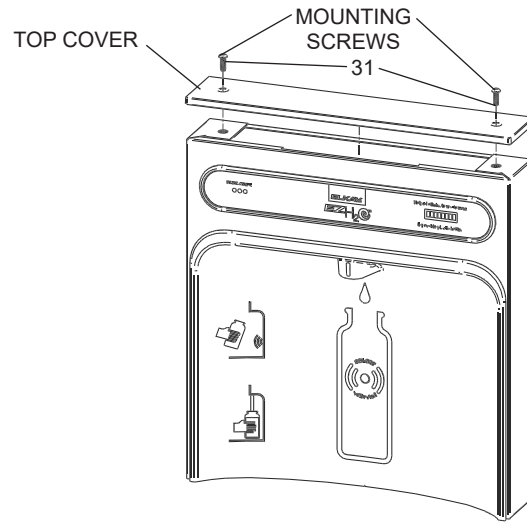
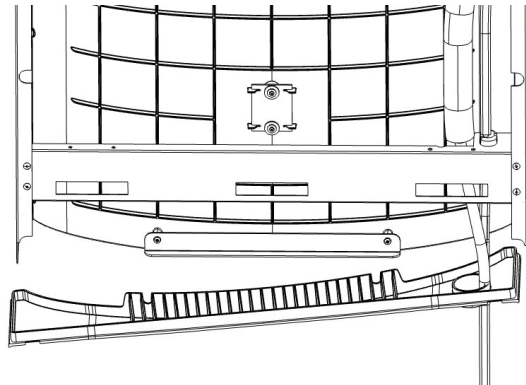

Fig. 11
Fig. 12
- 1) Remove two (2) mounting screws with 5/32" Allen wrench holding top cover to Bottle Filler (See Fig. 11). Remove top cover. Note do not discard mounting screws, they will be needed to reinstall top cover.
- 7) Feed power cord & 3/8" water line through hole in tower/basin gasket (See Fig. 12).
- 8) With the power cord, wire(s), and waterline through hole on top of water cooler place Bottle Filler on the three (3) angled tabs protruding from the wall mounting plate installed on wall. Make sure round boss in gasket fits in hole of basin.
- 9) Once Bottle Filler is installed on wall plate tabs, make sure the water line, wire(s) and power cord are installed properly. Inspect for leaks, fix all leaks before continuing. Push top of Bottle Filler toward wall and line up top cover two (2) holes.
- 10) Reinstall Top Cover on Bottle Filler (See Fig. 11) with two mounting screws from step 1 above. Caution, do not over tighten screws.